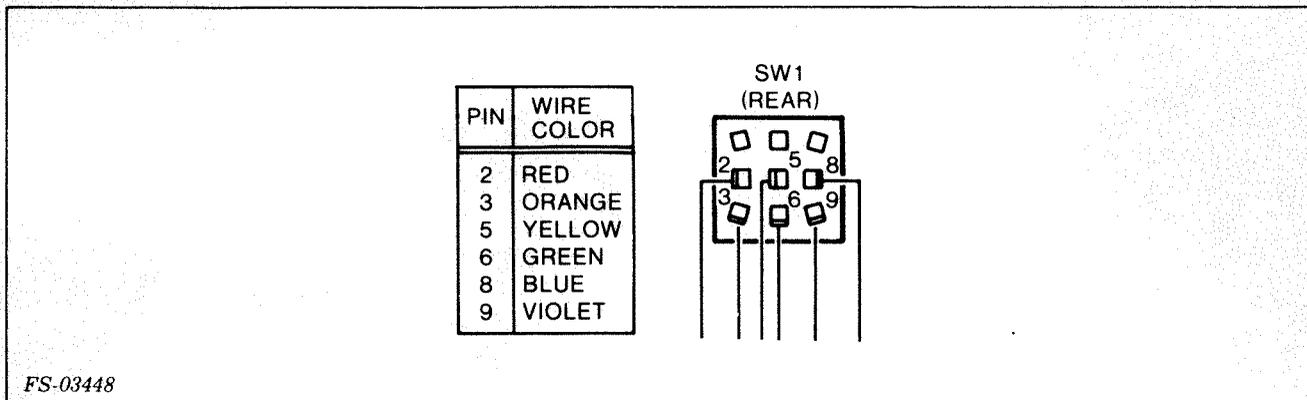

Figure 5-22. Power Switch Wire Connections
3. pull one spade lug wire from the back of the switch and seat it on the back of the new switch. Repeat this process until all wires have been replaced (see Figure 5-22).